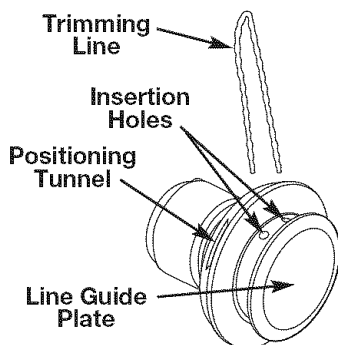

Fig. 11
NOTE: Before inserting new line into the holes in the cutting head, identify the proper holes by following the directions on the line glide plate (Fig. 11). Do Not attempt to remove the cutting head from the unit when replacing line.
1. Insert both ends of your line into the insertion holes in the side of the cutting head (Fig. 11).